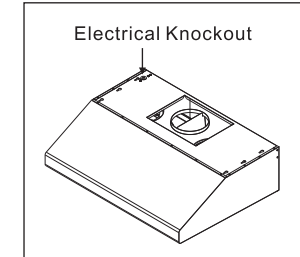

Fig.1
1. Remove the top electrical knockout, you may plan to bring power to the range hood either through the cabinet or through the wall (Fig.1)
- The electrical knockout hole. (Fig.1)